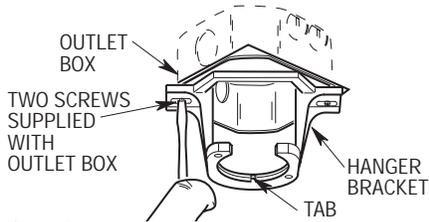
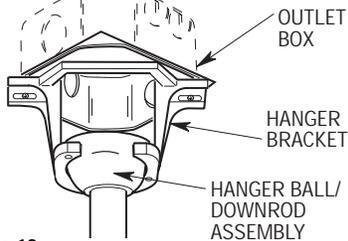

Figure 18
Figure 19
- 1. Securely attach the hanger bracket to the outlet box using the two screws supplied with the outlet box (Figure 18).
- 2. Carefully lift the fan and seat the hanger ball/downrod assembly on the hanger bracket that was just attached to the outlet box (Figure 19). Be sure the groove in the ball is lined up with the tab on the hanger bracket (Figure 18).